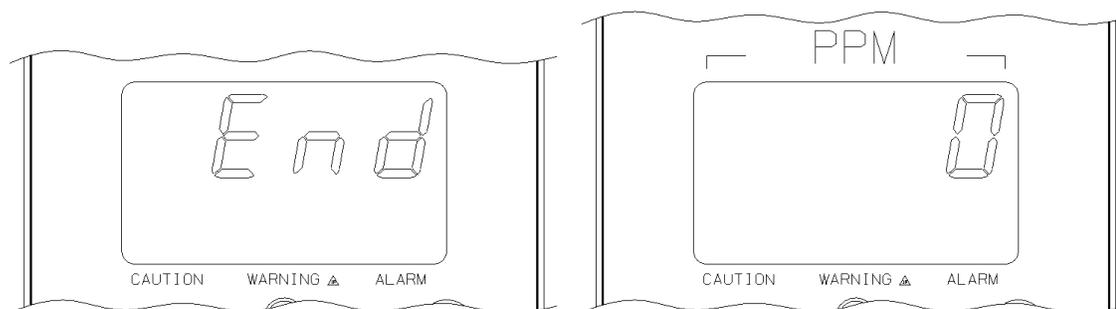

Fig. 28 Calibration End Display
(4) After the 30 second countdown:
- b) Once the gas value on the display is stable for 15 seconds, the alternating display stops. If the calibration is successful, the display will show END and 0 (Fig. 28 "Calibration End Display").
- (4) After the 30 second countdown:
- (5) **If using the zero cap:**